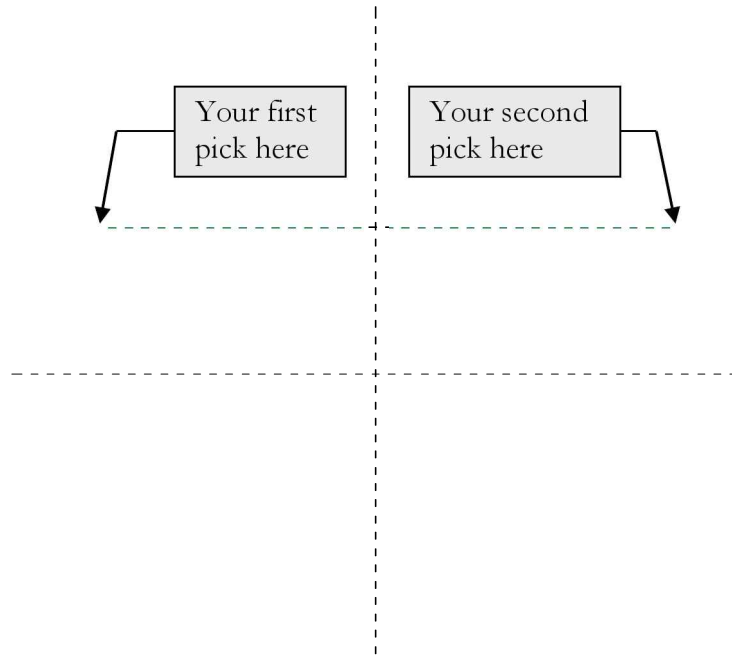

FIGURE 18-2.4 Adding a “horizontal” reference plane
5. Add a horizontal *Reference Plane* as shown in Figure 18-2.4.
The first *Reference Plane* has now been added to the new *Family*. Later in the book, a dimension will be added between the two parallel *Reference Planes* shown in Figure 18-2.4. This dimension can be locked so it does not move, or made to be parametric in which case the end user in the project environment can edit a value in the properties of a selected element, causing the *Reference Plane* to move accordingly.